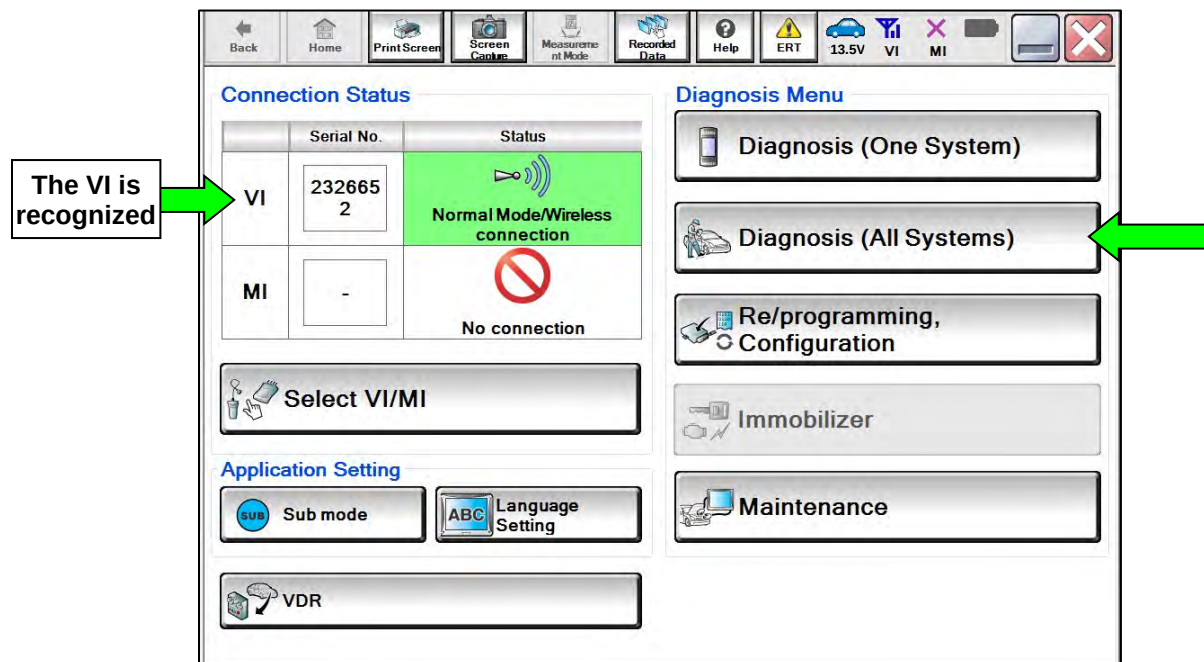

Figure 40
55. Wait for the VI to be recognized (Figure 40).